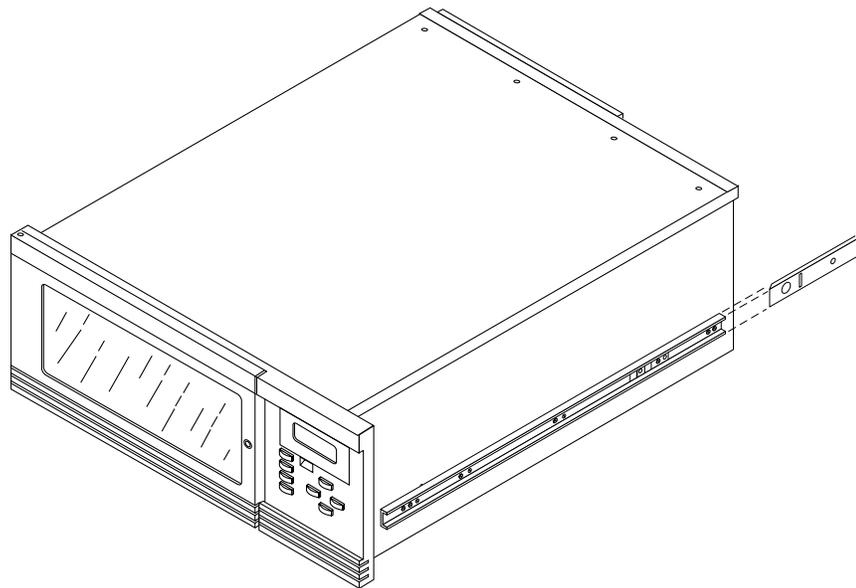

FIGURE 4-8 Positioning the Tape Library on the Slide Rails
- b. **Position the tape library on the rails and slide it towards the cabinet until you hear a click (FIGURE 4-8).**